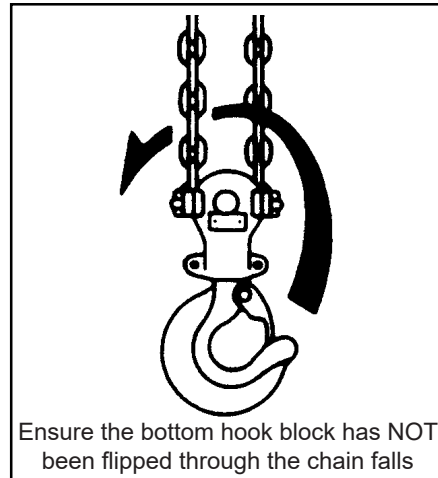
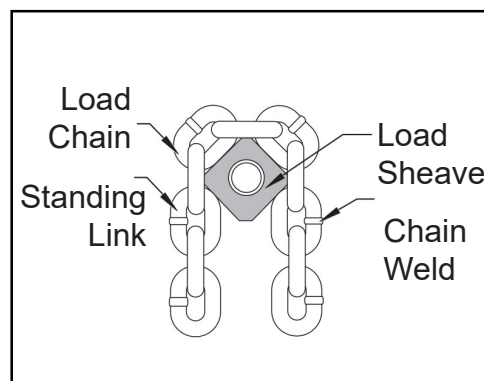

FIGURE 2
FIGURE 13
- Examine the load chain to ensure that there are no twists. 6 ton lever hoists have 2 falls of load chain. Twists can arise from the bottom hook being accidentally turned over through the load chains (See Figure 2).
- » LOAD CHAIN REEVING: Make sure welds on standing links are away from the load sheave. Reinstall chain if necessary (See Figure 13). Make sure chain is not capsized, twisted or kinked (See Figure 2 & 3). Adjust as required.